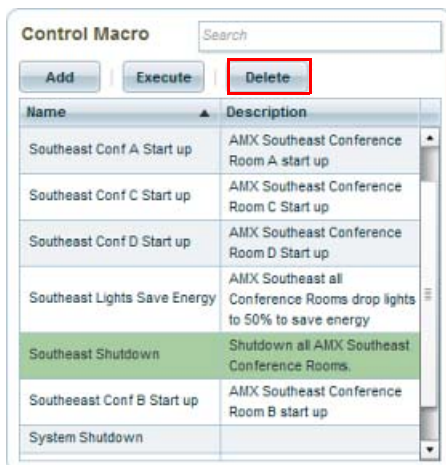

FIG. 288 Deleting Control Macro
- Click the **Delete** button (FIG. 288).